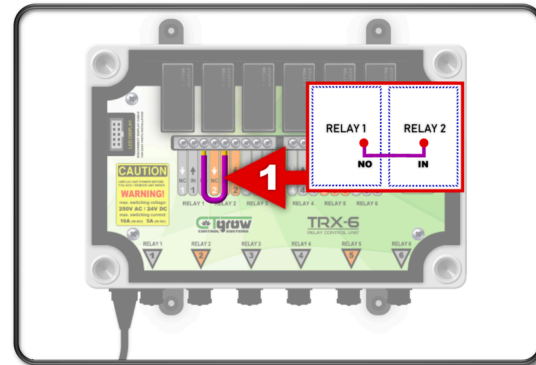
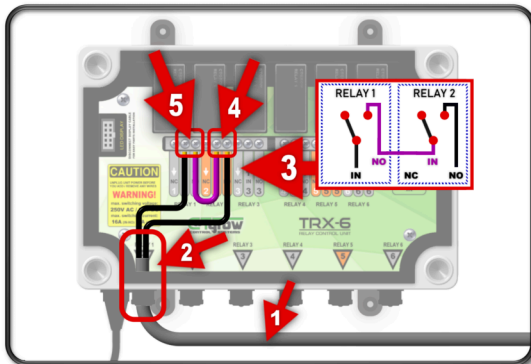

Figure 8.0.1
Figure 8.0.2
By combining two or more relays together, you can expand the capabilities of controlling electrical devices to achieve a much wider range of control parameters. This advanced wiring technique, known as relay bridging, unlocks new possibilities for configuring trigger cables, contactors, or direct device control (see Figure 8.0.2).
By programming the desired settings for both relays on the system dashboard, you can ensure that the connected device operates only when both relays are activated or turned on (see Figure 8.0.2-3).
To begin the relay bridge wiring procedure, we will connect two relay terminals together using a suitable piece of electrical wire (refer to Figure 8.0.1-1). Firstly, locate the terminal screws for **relay-1 (NO)** and **relay-2 (IN)** on both relays. Carefully loosen their terminal screws, creating an opening for the wire connection.
With both the terminal screws opened, proceed to insert the (purple) bridging wire (see Figure 8.0.1-1) into the terminals, ensuring a secure and proper connection. Once inserted, fasten the terminal screws to firmly hold the bridging wire in place (see Figure 8.0.1-1). To finalize this bridge connection, take the two black trigger wires that come from the trigger cable (See Figures 8.0.2-1/5) and connect one end of the black trigger wire to the **relay-1 (IN)** terminal and the other
end of the trigger wire to the **relay-2 (NO)** terminal (refer to Figures 8.0.2-3/4/5). To ensure reliable optimal operation, it is crucial to secure and tighten the connections properly. By following the steps above, you will successfully initiate the relay bridge wiring, enabling synchronized control and enhanced functionality of your connected electrical devices.
If you need to use three or more bridging options, simply repeat the same procedure described earlier. Follow the steps mentioned previously to establish additional bridging connections. By extending the wiring process and replicating the steps, you can create multiple bridge connections, expanding the control capabilities of your system. (see Figure 8.0.1-1).